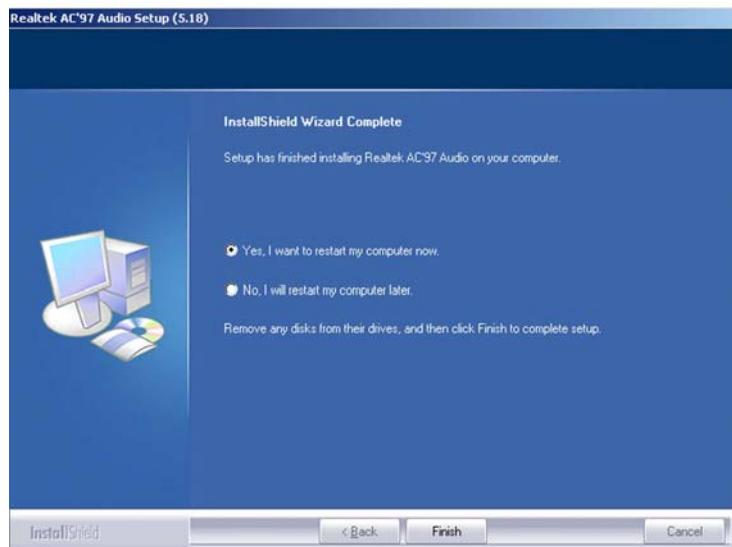

Figure 7-34: AC`97 Audio Driver Installation Complete
Step 9: After the driver installation process is complete, a confirmation screen shown in **Figure 7-34** appears.
Step 10: The confirmation screen shown in **Figure 7-34** allows you to restart the computer immediately after the installation is complete or to restart the computer later. For the settings to take effect the computer must be restarted. Once you have decided when to restart the computer, click the “**FINISH**” button.